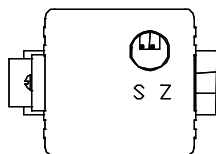

Figure 1
- Locate the plastic calibration access cap on top of the QB valve and completely remove it. Located underneath are two adjustment trimpots, Zero "Z" and Span "S". See figure 1 for pots location.